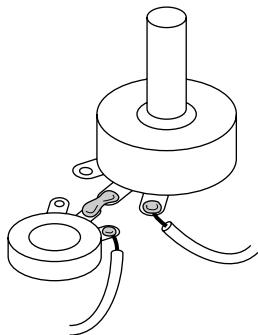

FIGURE 9-23: Solder the pots' middle terminals together and solder a wire to an outside lug of each, as shown.
1. Solder a trimmer of the same value (1M) to the full-sized 1M pot, center lug to center lug, and solder a wire to an outside lug of each pot (see Figure 9-23).